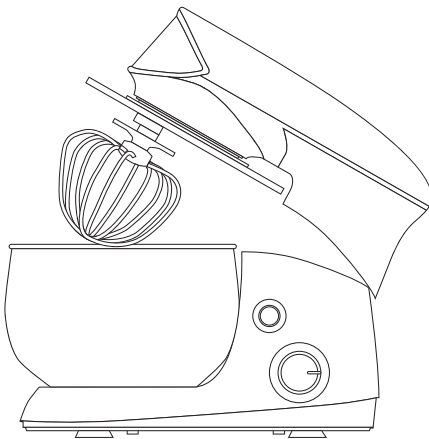

Fig. 1
4. Ensure that the mixing bowl is properly placed in position. First place the bowl into the base on the main body, then turn the bowl in clockwise until it locks into the right position (see fig.1).